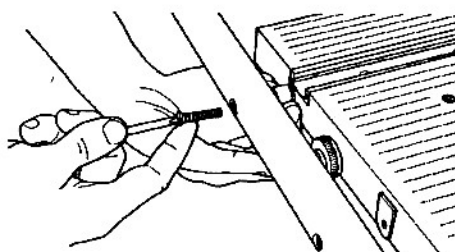

Fig. A-21
22. Insert a spacer between the extension table and fence tube. Hold the spacer in place while you insert a screw through the fence tube and spacer and into the extension table, as seen in Fig. A-21.